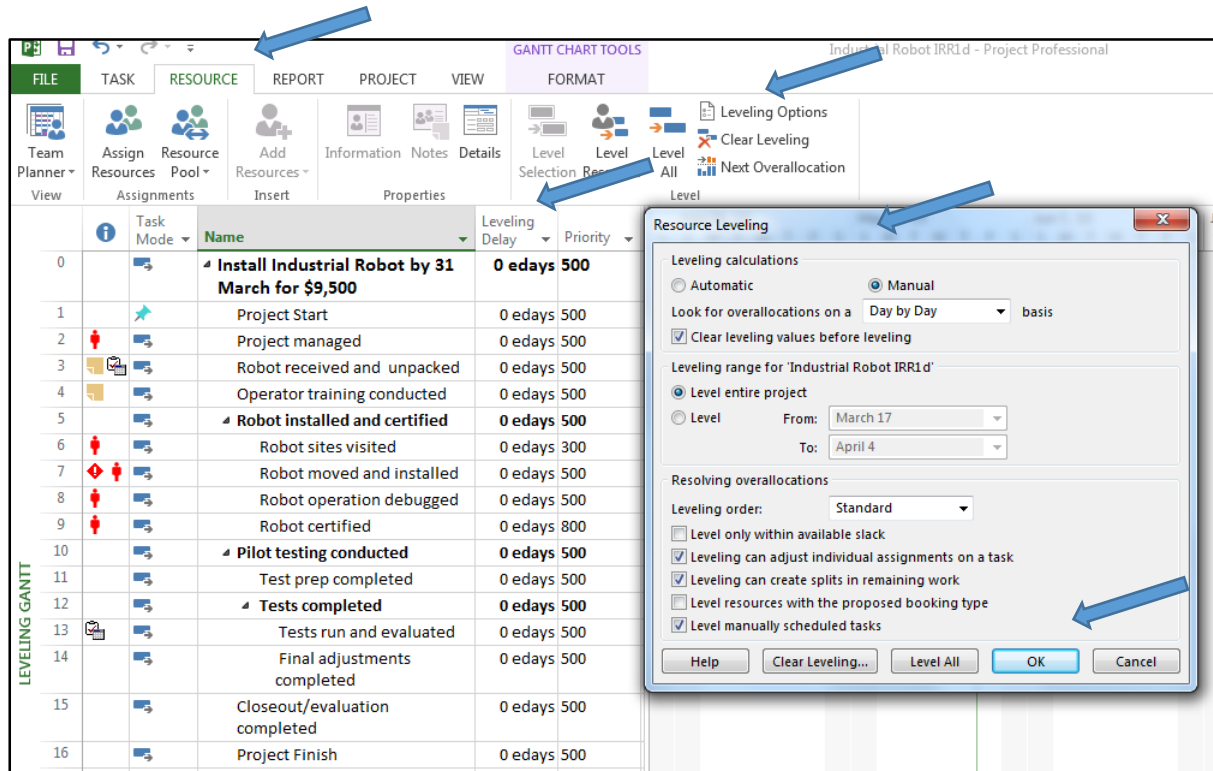

Figure 32
- To delay the start date of a task, use the Levelling Delay Column (see Step 8, Figure 32). This will insert a delay, but maintain all the links between tasks, and if necessary push out the critical path.
- Next, click the Resource tab. On the far right, click on the Leveling Options to bring up the dialog box. Here you will have to make choices to help MS Project level resources (Figure 32).